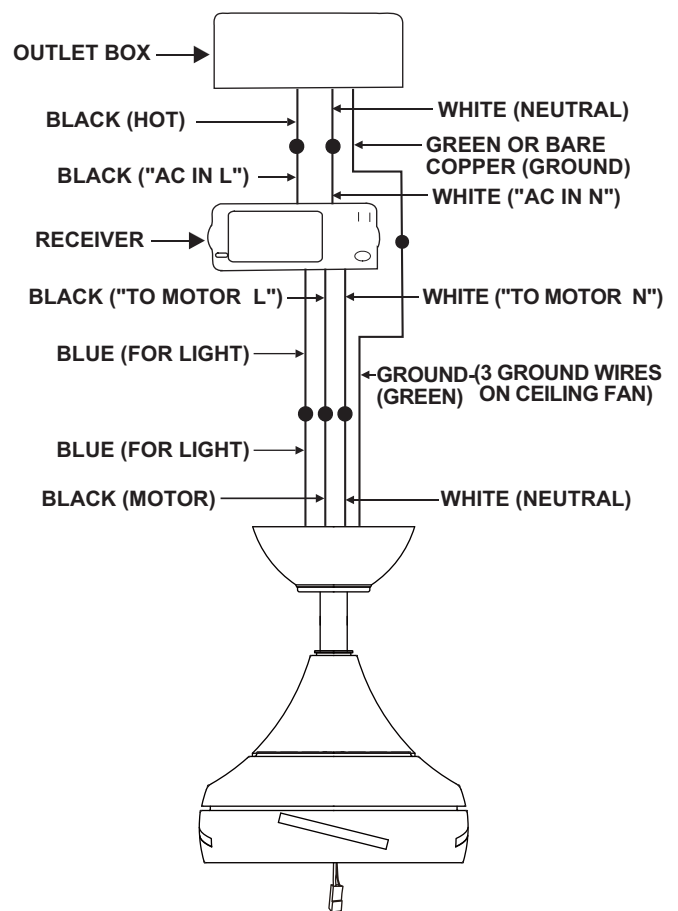

Figure 11
2. Motor to Receiver Electrical Connections: Connect the WHITE wire from the fan to the WHITE wire marked "TO MOTOR N" from the Receiver. Connect the BLACK wire from the fan to the BLACK wire marked "TO MOTOR L" from the Receiver. Proceed to secure all wire connections with the plastic wire nuts provided. Connect the BLUE wire from the fan to the BLUE wire marked "For Light" from the receiver. Proceed to secure all wire connections with the plastic wire nuts provided. (Fig. 11)
3. Receiver to House Supply Wires Electrical Connections: Connect the WHITE wire (Neutral) from the outlet box to the WHITE wire marked "AC in N" from the receiver. Connect the BLACK wire (Hot) from the outlet box to the BLACK wire marked "AC in L" from the receiver. Secure all wire connections with the plastic wire nuts provided. (Fig. 11)
4. If your outlet box has a GROUND wire (Green or Bare Copper) connect this wire to the Hanger Ball and Hanger Bracket Ground wires. If your outlet box does not have a Ground Wire, then connect the Hanger Ball and Hanger Bracket Ground Wires together. Secure wire connection with the plastic wire nut provided. (Fig. 11)